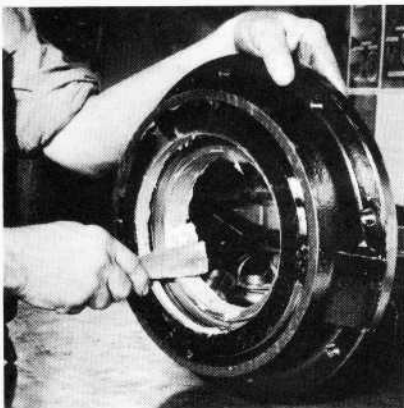

Fig. 2 - Grease Application To Labyrinth Grooves
1. After removal and thorough cleaning of all parts, the labyrinth grooves in the bearing caps and the pinion end cover should be filled flush with grease, Fig. 2. This grease need not be measured.